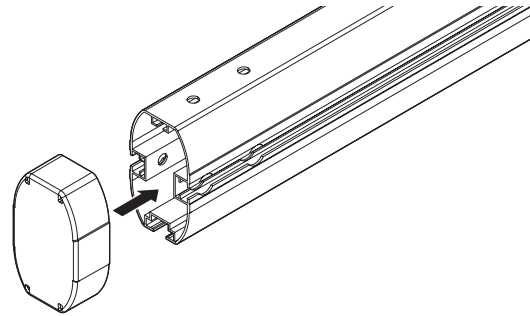

Figure 6
8. Install the end cap. See Figure 6.